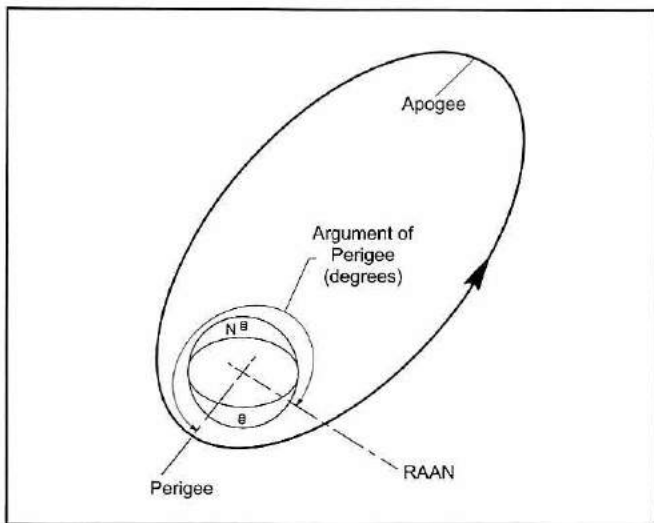

Fig 2-31—Argument of perigee.
**Argument of Perigee,  $W\theta$  (degrees):** This awkward title is merely a statement of the position of the perigee, or lowest altitude point of the orbit, with respect to the RAAN. Measuring orbital position, in degrees, about the center of the Earth, starting from the ascending node crossing of the equator around to the perigee position, then, is the value of  $W\theta$ . You can then reason that a value of  $W\theta = 270$  degrees means that the high point of the orbit, the apogee, will be at the most northerly latitude. Conversely, a value of  $W\theta = 90$  degrees places the apogee at the most southerly latitude. See Fig 2-31.